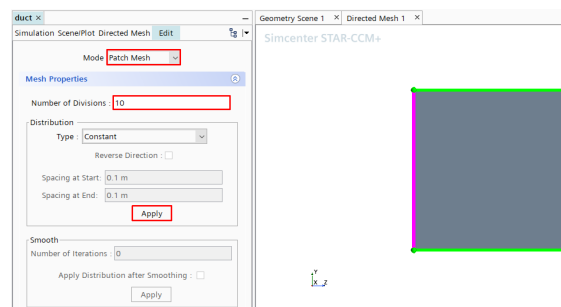

Figure 26: Process of specifying the vertical mesh divisions.
9. Click on one of the vertical edges. The **Mesh Properties** section in the *Explorer Pane* will become available once done correctly. Change the number of divisions to 10 and click **Apply**, as shown in Figure 26.